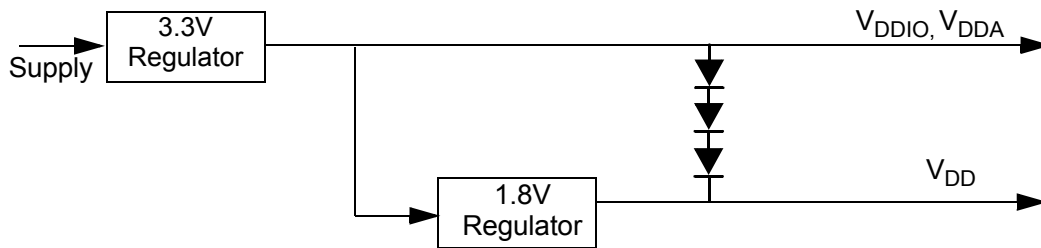

Figure 4-3 Example Circuit to Control Supply Sequencing
V_{DD} should not be allowed to rise early (1). This is usually avoided by running the regulator for the V_{DD} supply (1.8V) from the voltage generated by the 3.3V V_{DDIO} supply, see **Figure 4-3**. This keeps V_{DD} from rising faster than V_{DDIO} .
V_{DD} should not rise so late that a large voltage difference is allowed between the two supplies (2). Typically this situation is avoided by using external discrete diodes in series between supplies, as shown in **Figure 4-3**. The series diodes forward bias when the difference between V_{DDIO} and V_{DD} reaches approximately 2.1, causing V_{DD} to rise as V_{DDIO} ramps up. When the V_{DD} regulator begins proper operation, the difference between supplies will typically be 0.8V and conduction through the diode chain reduces to essentially leakage current. During supply sequencing, the following general relationship should be adhered to: